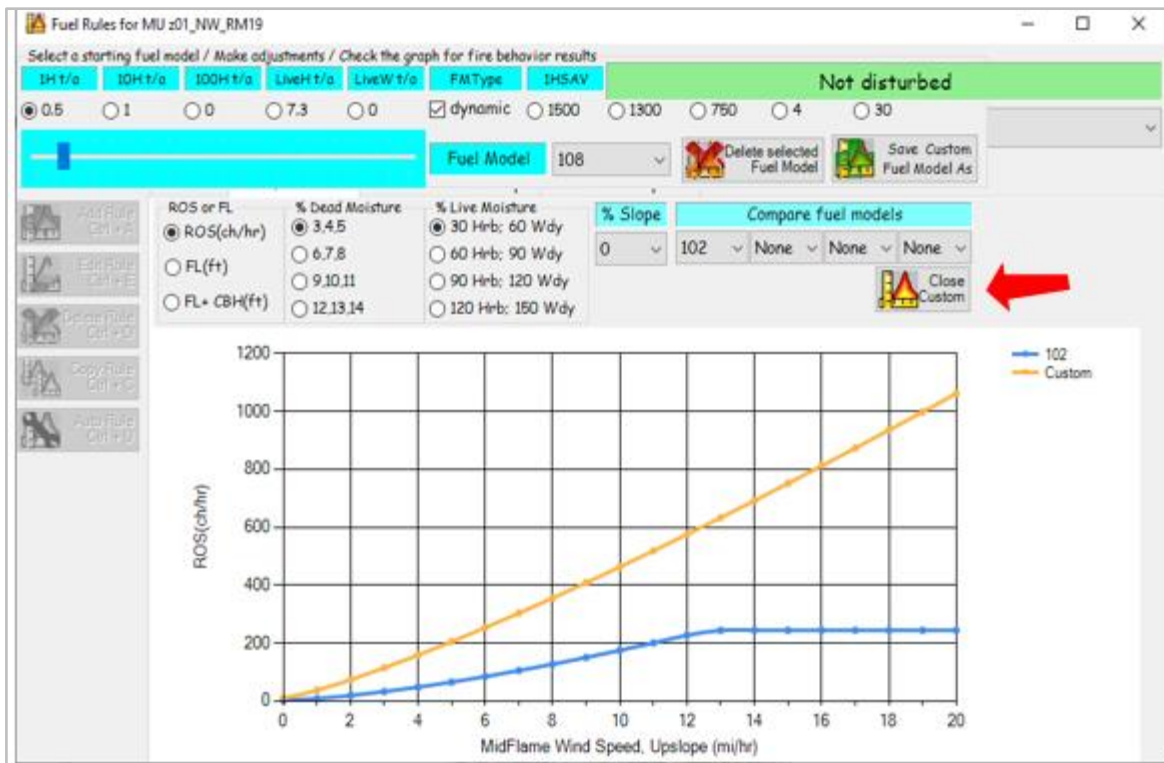

Figure 7-28: Create Custom Fuel Models page with Close Custom Fuel Model function.
- Make adjustments by selecting a parameter and then moving the slide adjustment (Figure 7-28).
- Close the custom fuel model interface when finished by clicking the same button, now called **"Close Custom"** (Figure 7-28).